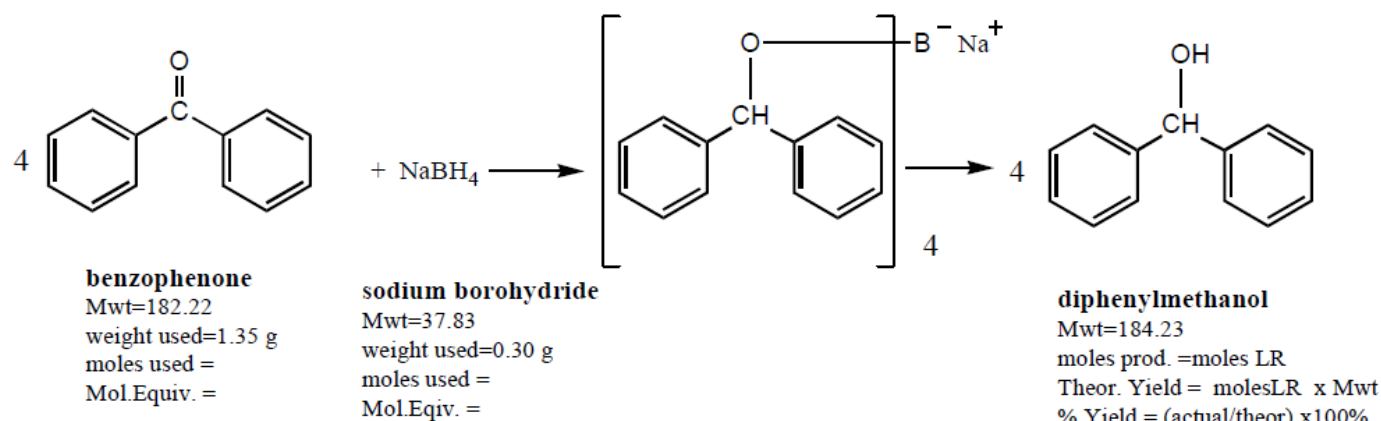

Figure 12.2 Benzophenone reaction with sodium borohydride.
4. Use the supplied capillary tube to spot the pre-prepared TLC plate with each of three solutions prepared in step 1, above, as shown Figure 12.2).